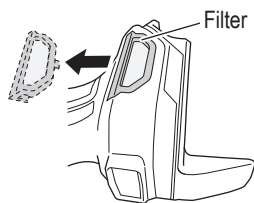

Fig. 23
- If the mesh is clogged and the debris or dust cannot be removed, detach the filter and clean it with an air blow gun, etc. (Fig. 23)